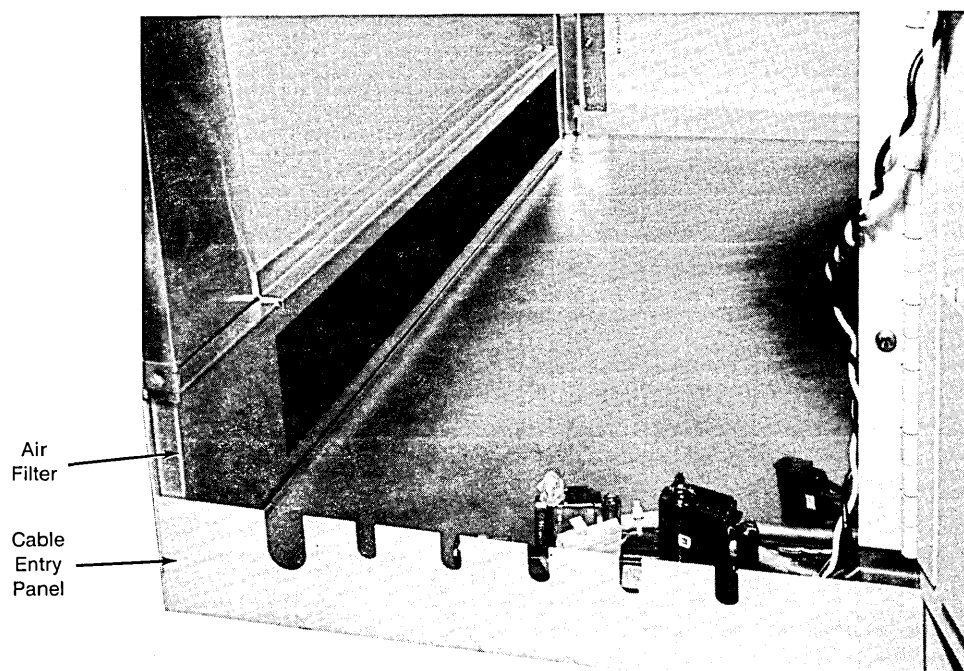

Figure 5-1. Air Filter
2. Remove two screws holding cable entry panel (figure 5-1) and remove cable entry panel.